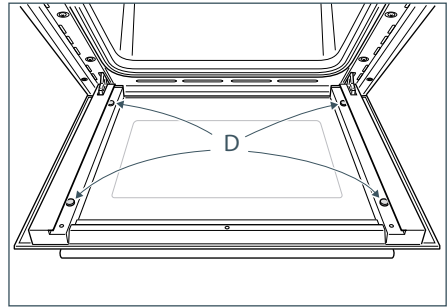

Fig.84a
- Check that the four rubber pads are in place ("D" in Fig. 84a).